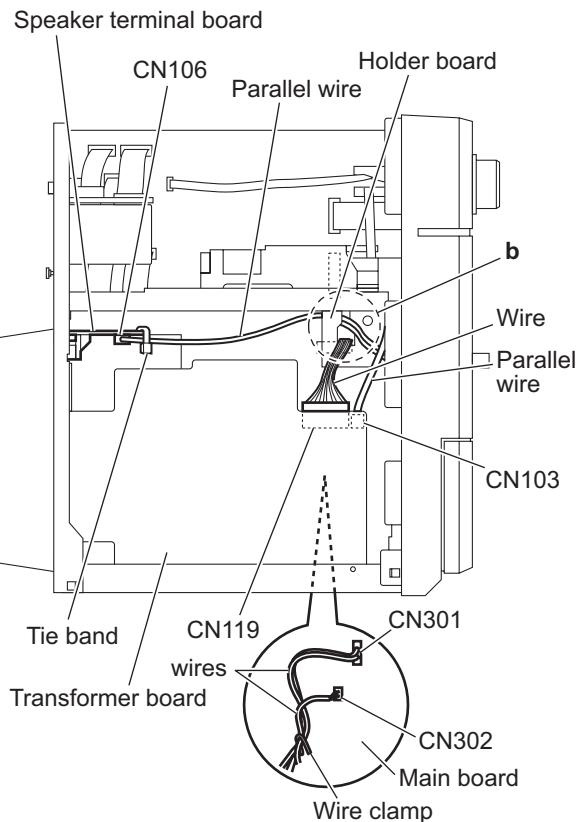

Fig.5
(4) Remove the wire clamp fixing the wires and disconnect the wires from the connector (CN301, CN302) on the forward side of the main board. (See Fig.5.)
After connecting the wires to the connectors, fix the wires with the wire clamp as before. (See Fig.5.)
(5) From the left side of the main body, disconnect the parallel wire from the connector CN103 on the transformer board. (See Fig.5.)
(6) Disconnect the wire from the connector CN119 on the transformer board. (See Fig.5.)
After connecting the wire, pass the wire through the slot **b** of the holder board as before. (See Fig.5.)
(7) Remove the tie band fixing the parallel wire and disconnect the parallel wire from the connector CN106 on the speaker terminal board. (See Fig.5.)
- After connecting the parallel wire, fix the parallel wire with a new tie band as before. (See Fig.5.)
- After connecting the wire, pass the wire through the slot **b** of the holder board as before. (See Fig.5.)